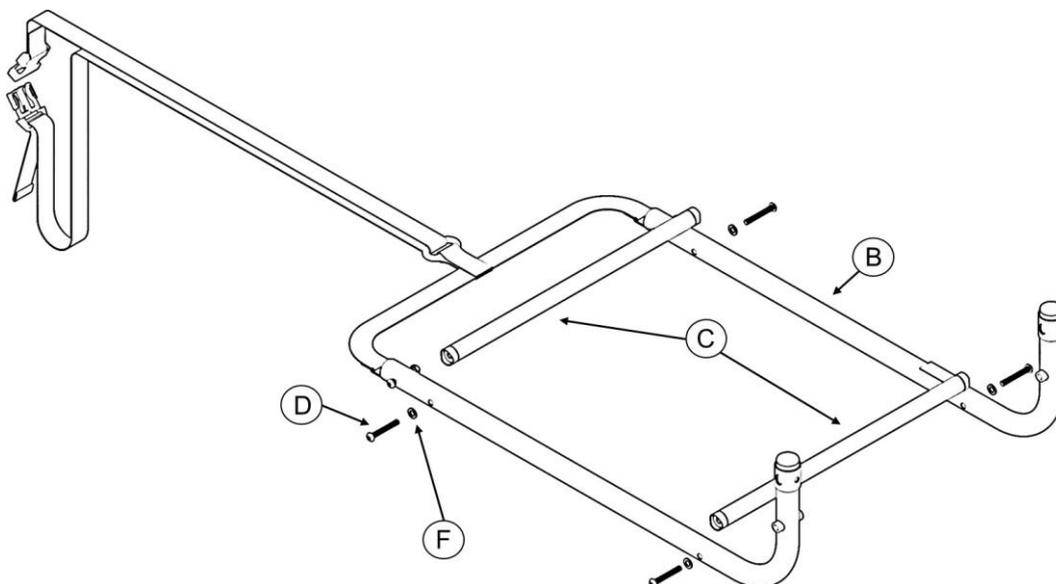

Figure 2
4.1 Using the tool provided (J), attach C to D and F to B as shown in Figure 2.